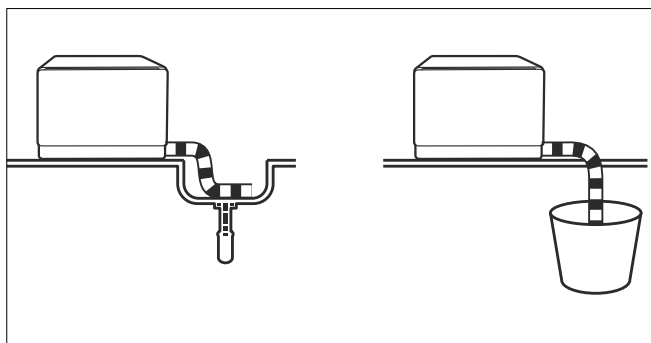

Fig. 14 – Draining into a sink or container
- Hang the end of the waste water hose into a sink or a sufficiently large container (≥ 12 litres) (see Fig. 14).
- Once you have connected it to the water supply and drainage, connect the mains plug (7) to a socket.